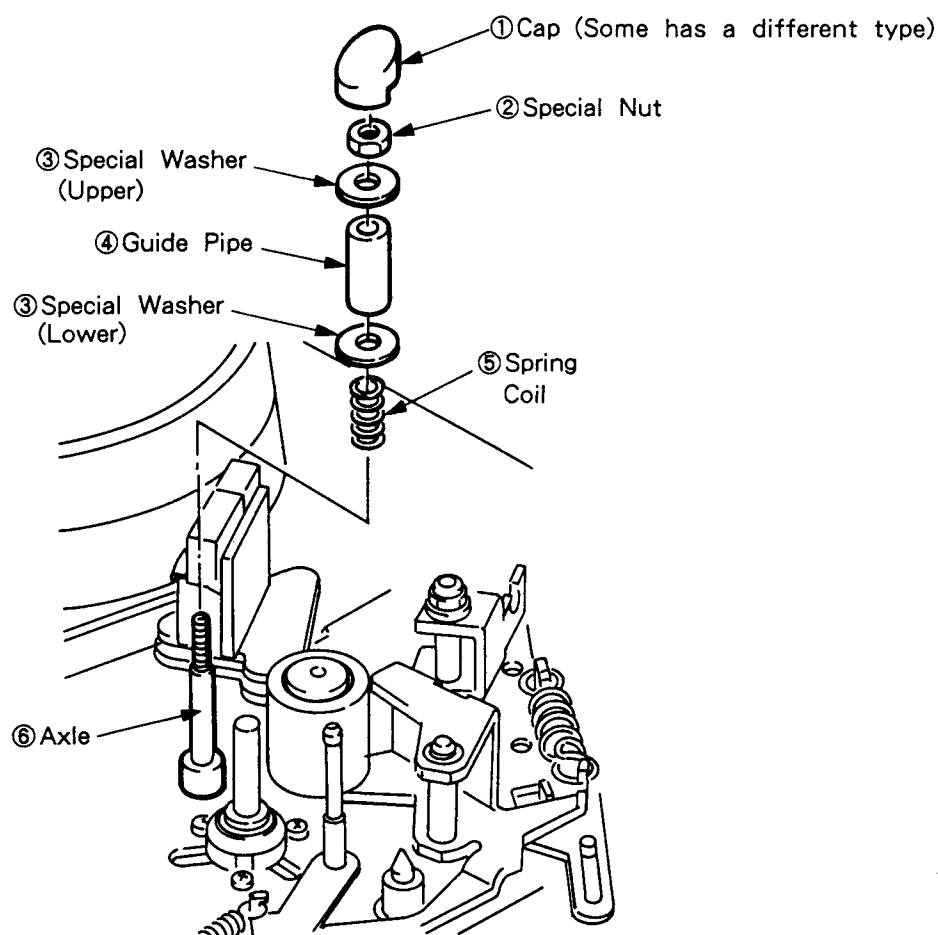

Fig. 2-10-3. Fixed Guide (T)
2-10-3. Fixed Guide (T) (See Fig. 2-10-3.)